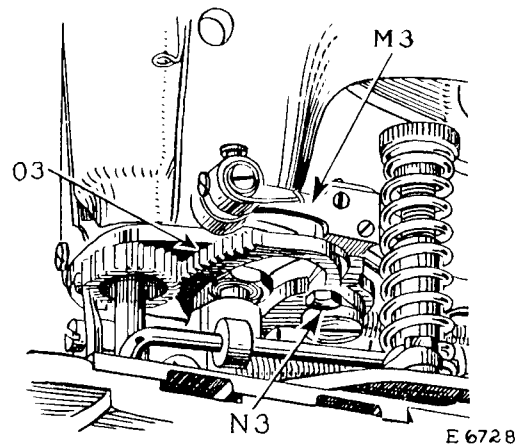

Fig. 28. Adjustment of Cord Finger Tripping Latch
The cord finger tripping latch (M3, Fig. 28) should be adjusted (with the machine in running position) so that it holds the cord
rotating sector (O3, Fig. 28) in position while stitching the second side of the buttonhole. To make this adjustment, loosen the lock nut (B, Fig. 17) and turn the screw (A, Fig. 17), as required, after which securely tighten the lock nut (B).
The adjustable catch which is located on the underside of the cord rotating sector as shown at N3, Fig. 28, should be set so that it will permit the cord finger tripping latch (M3, Fig. 28) to drop freely into the adjustable catch on the cord rotating sector (O3) to hold it in position.